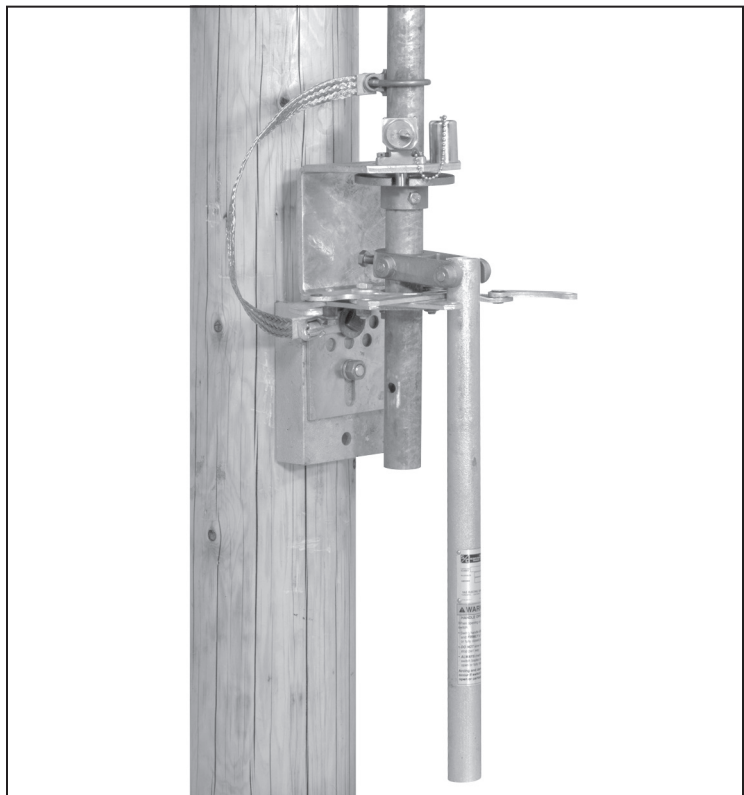

Figure 49. Disengage the key interlock bolt.
- (b) If the operating handle assembly is furnished with a key interlock, disengage the interlock bolt. See Figure 49.